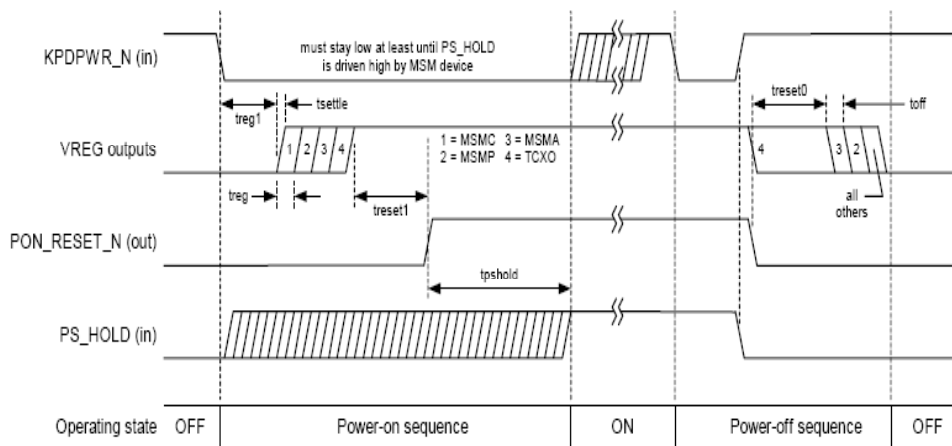

Figure 3-4 High-level power sequences timing diagram
4. There is a delay of four SLEEP_CLK cycles after one regulator settles before the next regulator is enabled. Each regulator will settle to within 10% of its final value within four SLEEP_CLK cycles. The regulators are turned on in the following order (as illustrated in Figure 3-4): 1 = MSMC, 2 = MSMP, 3 = MSMA, and 4 = TCXO.